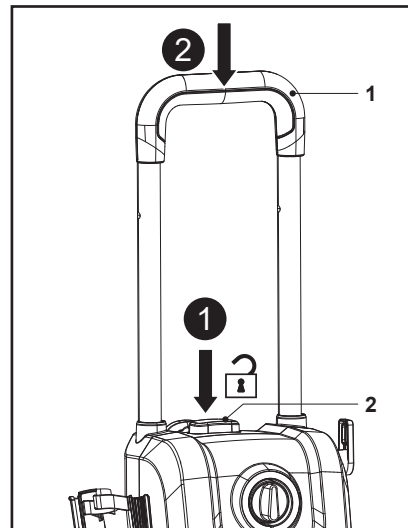

Fig. 16
2. Press and hold the handle lock button (2), then press the transport handle (1) to retract it (Fig. 16).